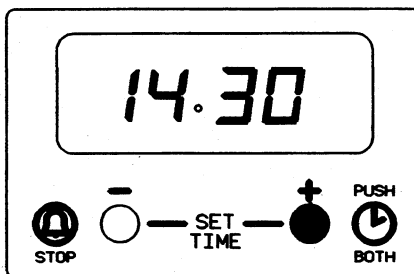

Fig. 6.3
Within 5 seconds, press and hold either button (1) to decrease or button (2) to increase the time until the correct time of day on the 24 hour clock is reached, e.g. 14:30. The cooking symbol (🔥) will go out. See Fig. 6.3.